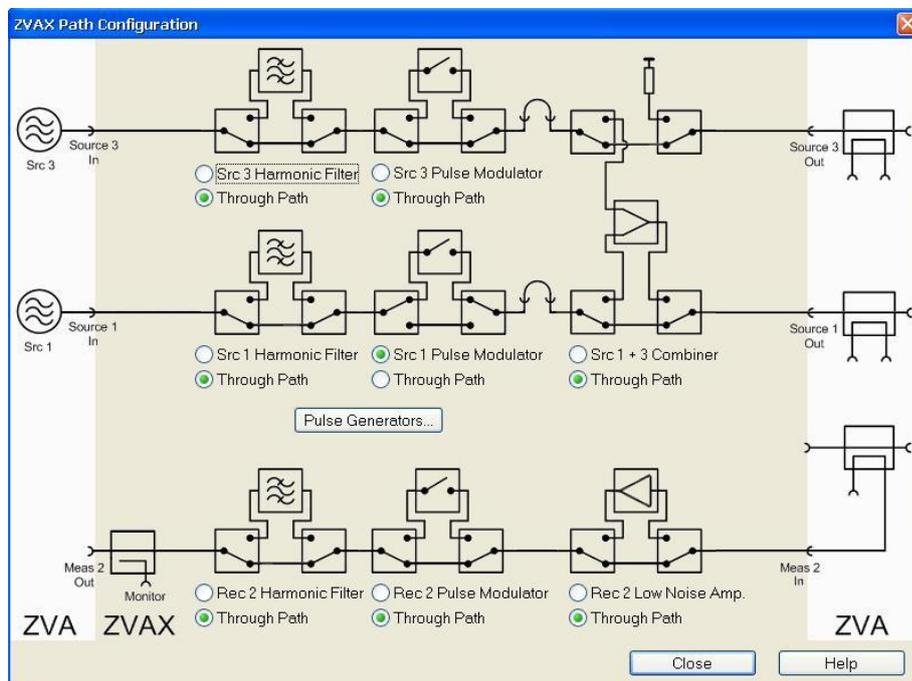

Figure 7: ZVAX Path Configuration
- a) Use the radio buttons in the “ZVAX Path Configuration” dialog to activate the “Source 1 Pulse Modulator”. If your extension unit contains a harmonic filter or combiner, select the corresponding Through paths (Figure 7).